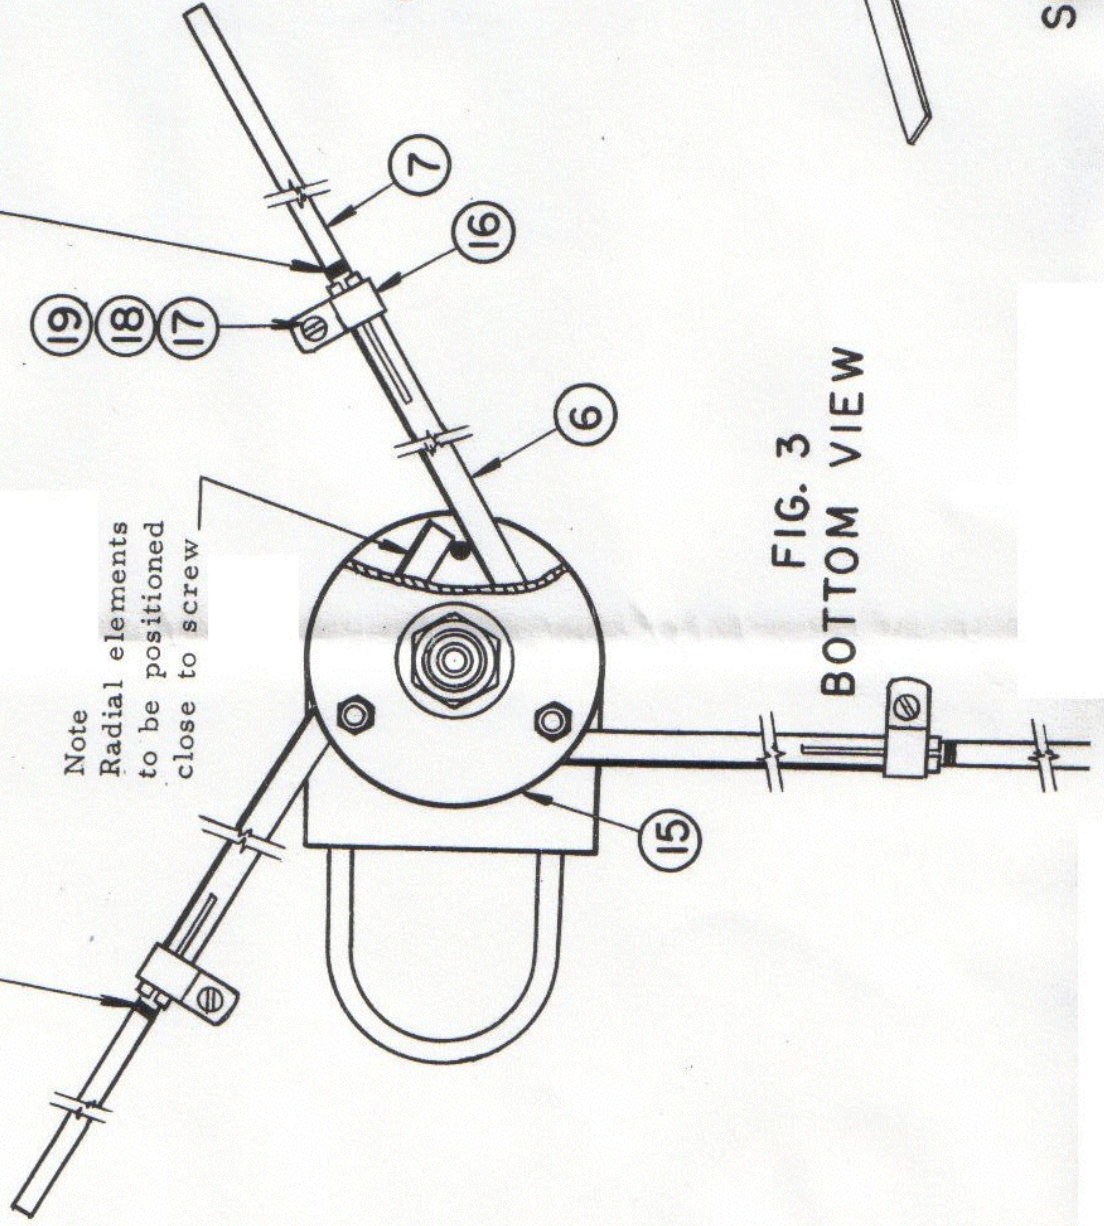

FIG. 3
7. Attach the ground plane radials and tighten securely. See Figure 3.